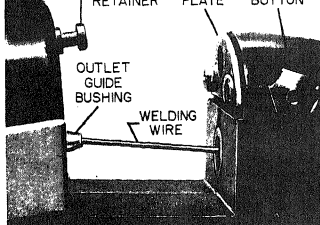

Figure 16. Sliding Drive Roll Housing with Wire onto Gun
c. Pass end of wire protruding from drive roll housing (Fig. 16) into liner retainer and outlet guide sleeve. Slide drive roll housing onto stripped Gun until housing is locked.